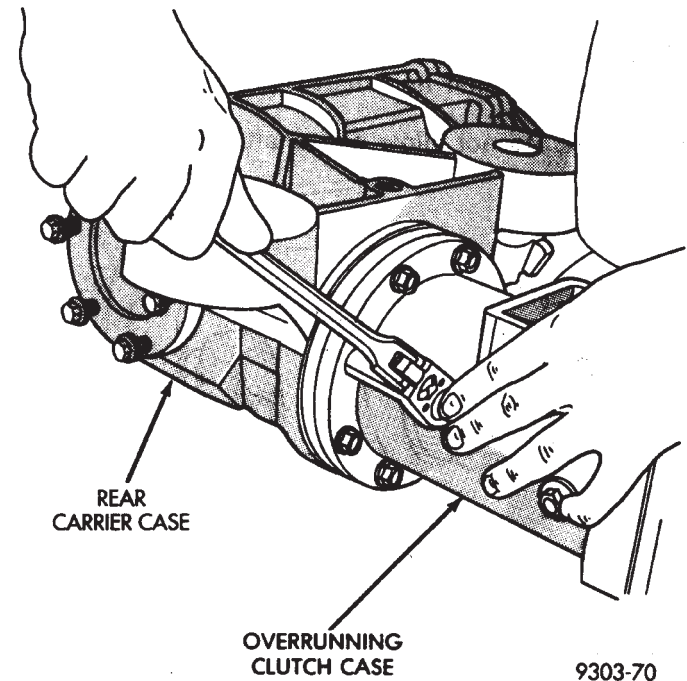
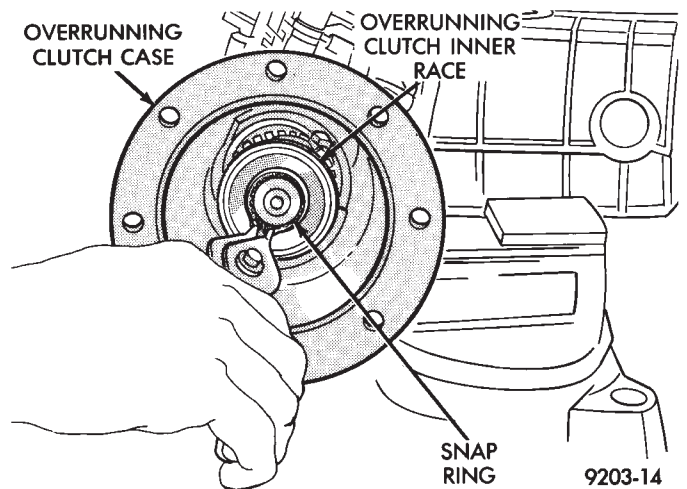
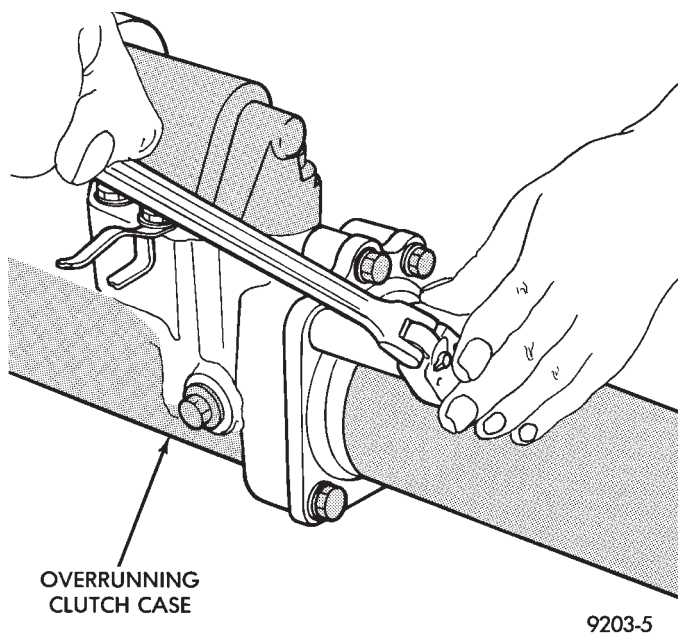

Fig. 19 Overrunning Clutch Case to Rear Carrier Bolts
Fig. 20 Inner Race Snap Ring
Fig. 21 Torque Tube Bolts
- (1) Remove rear drive line module assembly.
- (2) Remove overrunning clutch cover assembly.
- (3) Drain fluid from overrunning clutch case.
- (4) Remove overrunning clutch case to rear carrier case bolts (Fig. 19).
- (5) Separate the overrunning clutch housing from the rear carrier case.
- (6) Remove overrunning clutch inner race snap ring (Fig. 20).
- (7) Slide overrunning clutch inner race off of the shaft.
- (8) Remove dog-clutch snap ring and slide dog-clutch off of the shaft.
- (9) Remove torque shaft rear bearing snap ring.
- (10) Remove torque tube retaining bolts (Fig. 21).